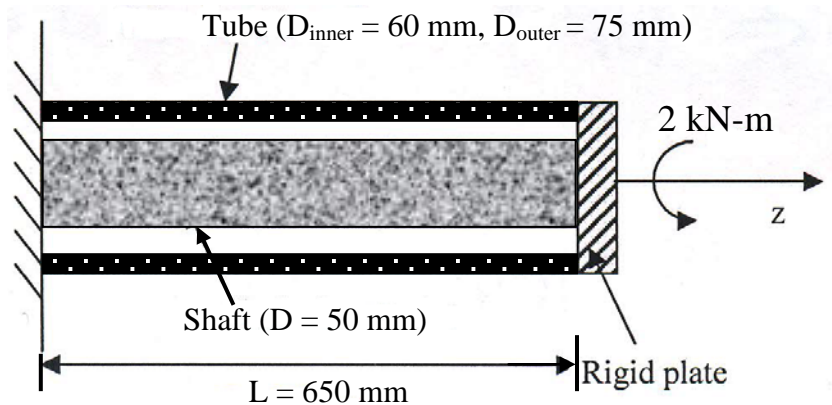

Fig. 2
2. Fig. 2 shows a solid circular steel shaft of diameter 50 mm placed inside a hollow steel tube of outer diameter 75 mm and inner diameter 60 mm . the shaft and the tube are rigidly fixed at one end and are connected to a thick circular plate at the other end. If the length of both the shaft and the hollow tube is 650 mm and the circular plate is subjected to a twisting moment of 2 kN-m , calculate the maximum shear stresses in the shaft and the tube. What is the angle of rotation of the plate and the torsional stiffness of this assembly? Given: $G_{\text{steel}} = 80 \text{ GPa}$.